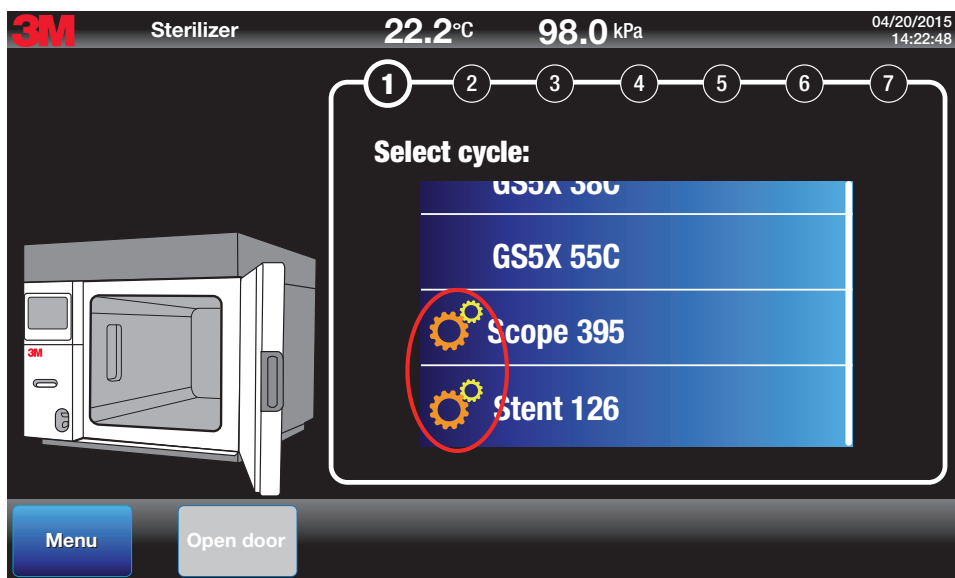

Figure 58.
2. Imported custom cycles that were selected in **Menu>Setup>Site Setup>Cycle** now appear in the Cycle Start Screen. Custom cycles have the 'gears' logo next to the file name to distinguish them from the preprogrammed cycles (Figure 58).
3. Assure Operator Cycle Start Screen (Figure 58) on the GSX Series sterilizer, displays a minimal number of custom cycles to help assure Operator selects and starts the correct cycle for the intended use.